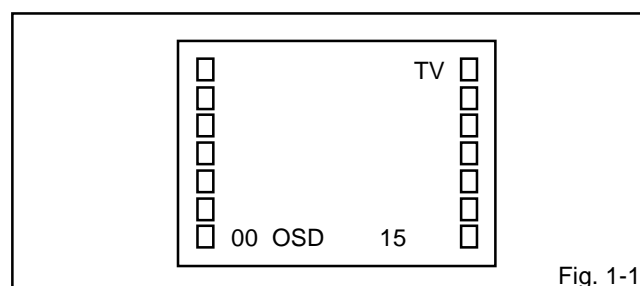

Fig. 1-1
2. Press the VOL. DOWN button on the set and the Channel button (9) on the remote control simultaneously to appear the adjustment mode on the screen as shown in Fig. 1-1.
7. Activate the adjustment mode display of Fig. 1-1 and press the channel button (03) on the remote control to select "VIF VCO".
3. Activate the adjustment mode display of **Fig. 1-1** and press the channel button **(02)** on the remote control to select "RF AGC".
5. Activate the adjustment mode display of **Fig. 1-1** and press the channel button **(01)** on the remote control to select "CUT OFF".
4. Activate the adjustment mode display of **Fig. 1-1** and press the channel button **(10)** on the remote control to select "R CUT OFF".
3. Activate the adjustment mode display of **Fig. 1-1** and press the channel button **(05)** on the remote control to select "H PHASE".
3. Activate the adjustment mode display of **Fig. 1-1** and press the channel button **(07)** on the remote control to select "V SHIFT".
3. Activate the adjustment mode display of **Fig. 1-1** and press the channel button **(06)** on the remote control to select "V SIZE".
3. Activate the adjustment mode display of **Fig. 1-1** and press the channel button **(13)** on the remote control to select "BRIGHTNESS".